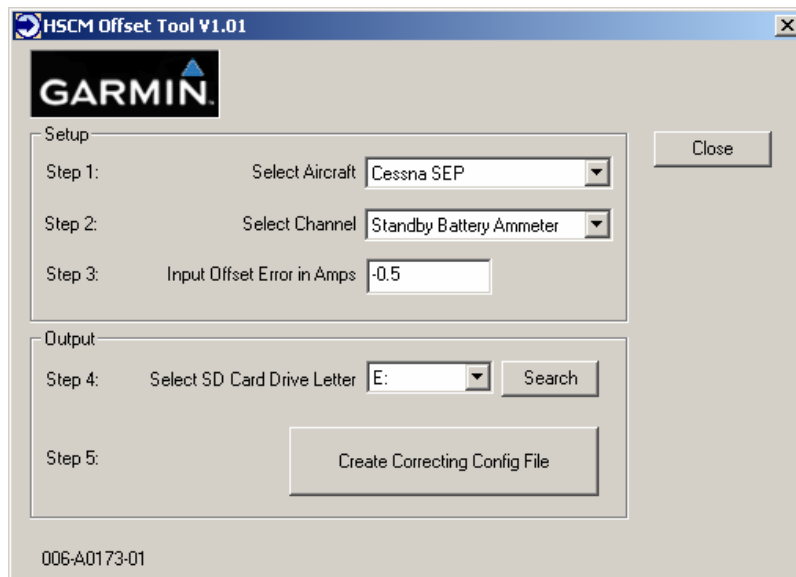

Figure 5-40. HSCM Offset Tool User Interface Display
2. Run the HSCM.exe program (verify interface resembles Figure 5-40).